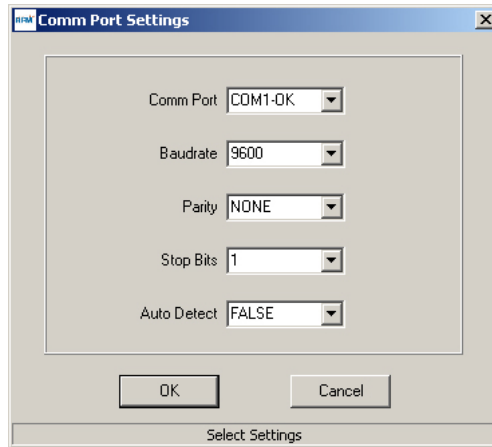

Figure 5.3.4
6. Click on the *Connect* button in the lower left of the main LPRDemo2 window to open the *Comm Port Settings* dialog window, as shown in Figure 5.3.4. Set the *Baudrate* to 9600 b/s. Set the *Comm Port* to match the serial port connected to the Base, either the RS232 serial port or the USB virtual serial port. Then click *OK* to activate the serial connection.